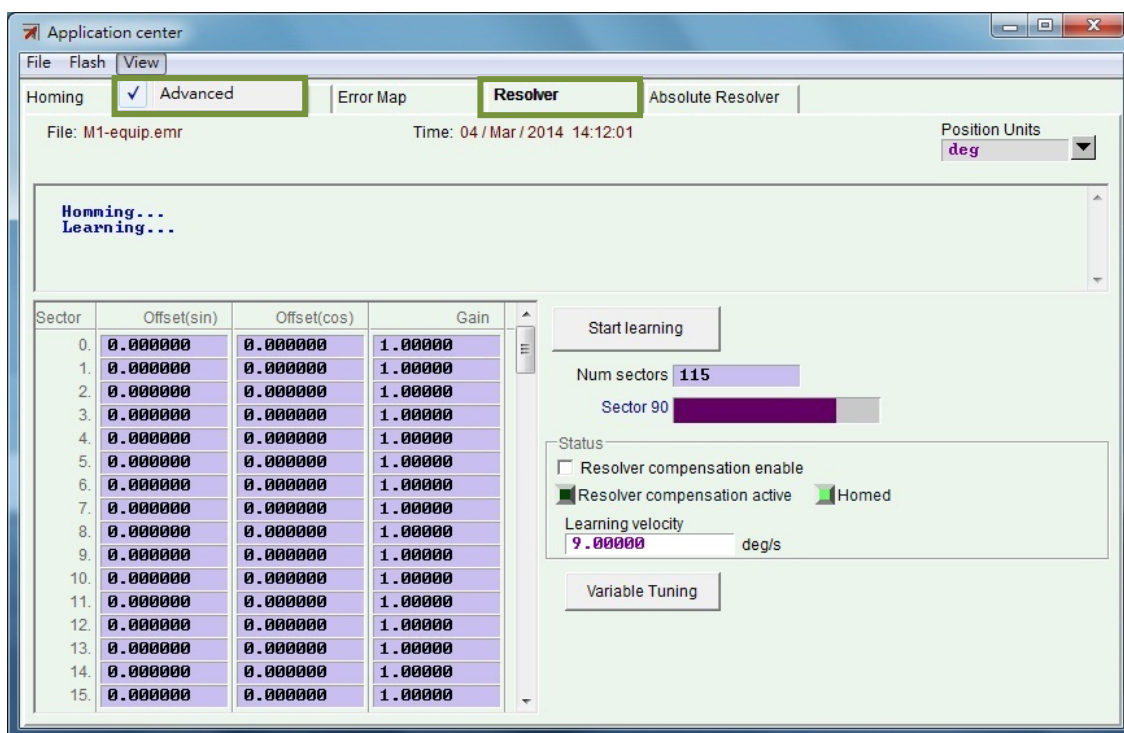

Figure 6.10.1.1
Step 1: Open Application center. Select **Advanced** from the submenu of **View** on the menu bar. **Resolver** tab appears as figure 6.10.1.1.